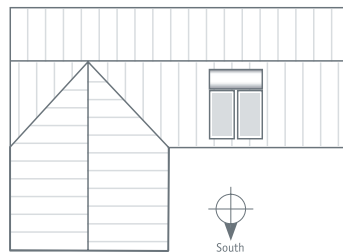

Figure 6.5 Northern Hemisphere Positioning
- [.] Draw diagram (top view) of installation area. Mark the location of the system and stub-out (see figure 6.5)